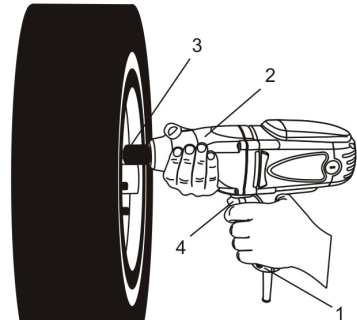

Fig. 3
3. Grasp the impact wrench handle (1) with one hand and the front housing of the impact wrench (2) with the other hand (Fig. 3).
4. Place the impact socket (3) onto the wheel nut.